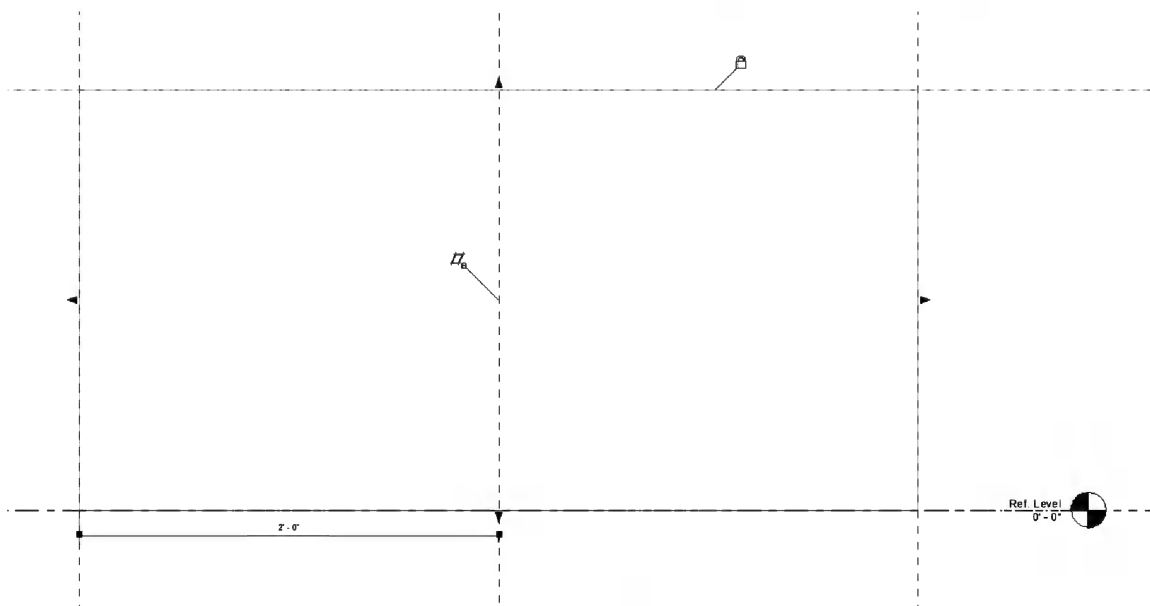

FIGURE 15-2.15 3D geometry selected, edit grips revealed
26. **Select the 3D box** to reveal the edit grips (Figure 15-2.15).